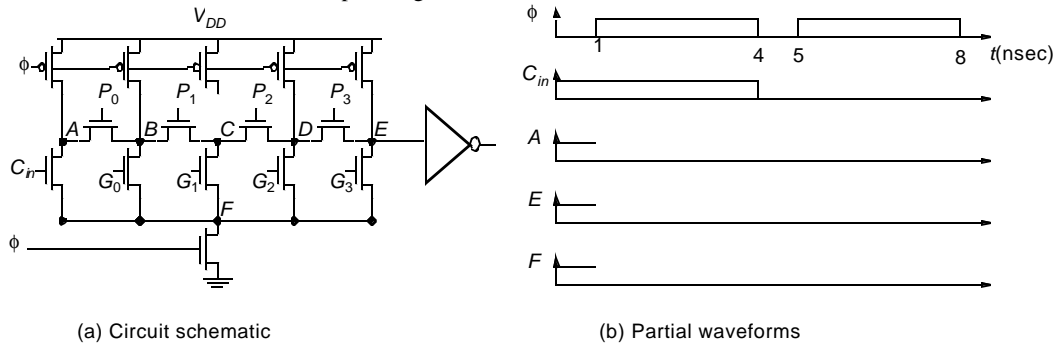

Figure 0.5 Alternative dynamic Manchester carry-chain adder.
9. [M, None, 11.3] Consider replacing all of the NMOS evaluate transistors in a dynamic Manchester carry chain with a single common pull-down as shown in Figure 0.5.a. Assume that each NMOS transistor has $(W/L)_N = 0.5/0.25$ and each PMOS has $(W/L)_P = 0.75/0.25$. Further assume that parasitic capacitances can be modeled by a 10 fF capacitor on each of the